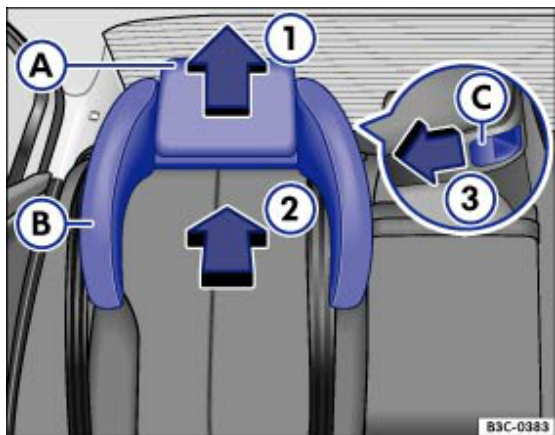

Fig. 82 Integrated child seat: inserting side head restraints
- Push the head restraint → *Fig. 82 ②* up → *Fig. 82 ①*.
- Push the side head restraints → *Fig. 82 ③* from the front in the direction of the arrow → *Fig. 82 ③* into the guides on the head restraint.
- The side head restraints must click into place. The red marking should no longer be visible → *Fig. 82 ④*.
- Push the head restraint → Fig. 82 ① up ①.
- Push the release mechanism → Fig. 82 ② in the direction of the arrow ③ to remove the side head restraint.